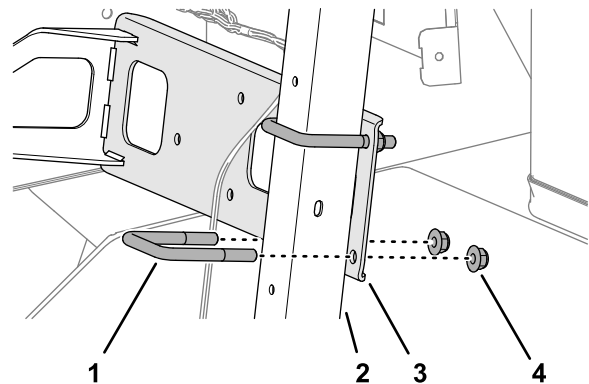

Figure 76
4. Loosely assemble the manifold mount to the dash support tube (Figure 76) with 2 U-bolts (3/8 inch) and 4 flange locknuts (3/8 inch).